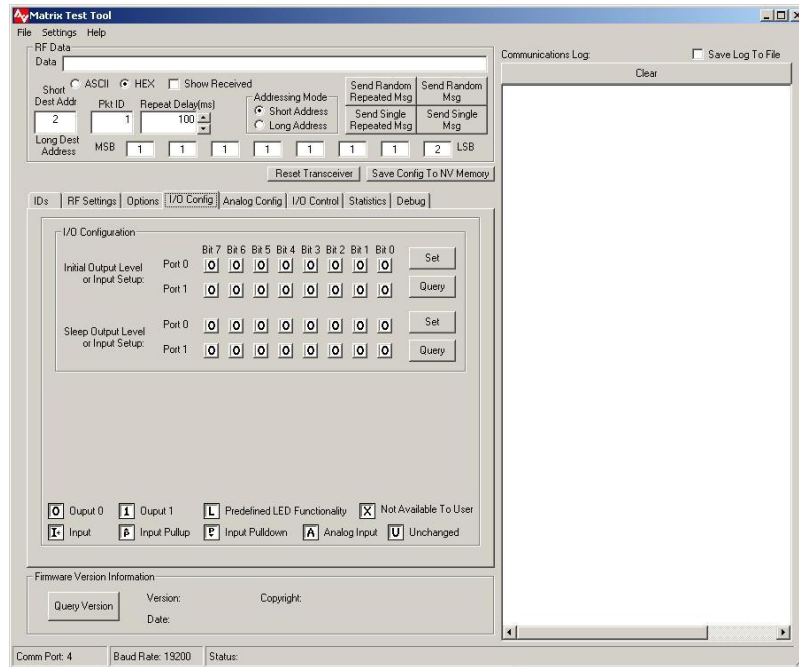

Figure 4-5. Digital I/O Configuration
4.2.7 I/O Configuration (See Figure 4-5)
The I/O Configuration page can be accessed by clicking the *I/O Config* tab in the software, and is shown in Figure 4-5. The I/O Configuration page can be used to configure select I/O pins for digital or analog operation. Refer to Table 4-2 for information on the I/O pin capabilities.